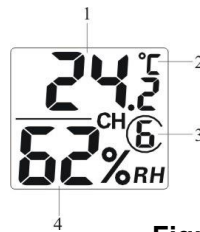

Figure 16
6. Verify the correct channel number (CH) and temperature units of measure (°F vs. °C) are on the display, as shown in Figure 16.